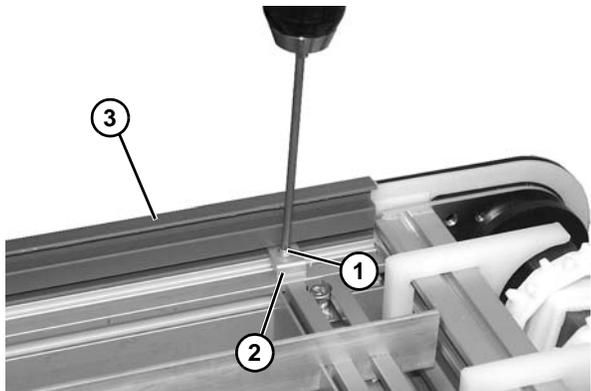

Figure 42
1. Using T20 torx tool, remove torx screws (Figure 42, item 1) and clamps (Figure 42, item 2) holding outer top wear strip (Figure 42, item 3) to frame.
2. Remove outer top wear strip (Figure 42, item 3) from frame assembly.